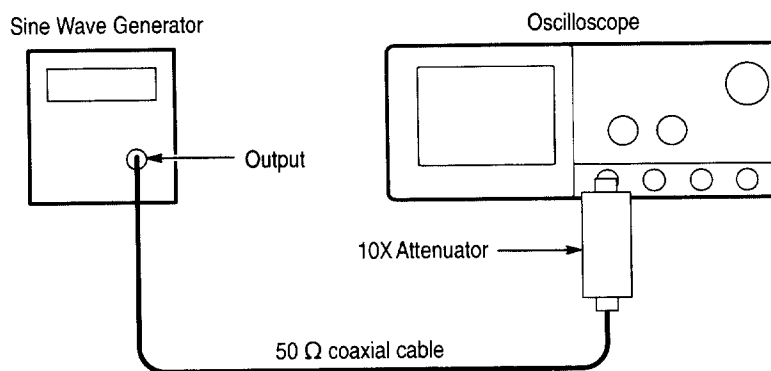

Figure 1–15: Initial test hookup
Do this through a 50 Ω precision coaxial cable, followed by a 10X attenuator. See Figure 1–15. The 10X attenuator is optional if the SG503 is used.
- c. *Set upper and lower limits that ensure triggering:* See Figure 1–16.